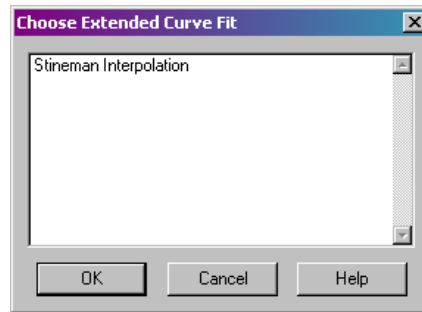

Figure 8-23. The Choose Extended Curve-Fit dialog.
3. Choose Extended from the drop-down menu. The Choose Extended Curve-Fit dialog will appear with a list of optional curve fits, as shown in Figure 8-23. Select the desired curve-fit.
You may also invoke an extended curve-fit by selecting an XY-mapping in the workspace, then clicking  on the Quick Edit dialog. This calls up the Choose Extended Curve-Fit dialog, shown in Figure 8-23, from which you may select the desired curve-fit.